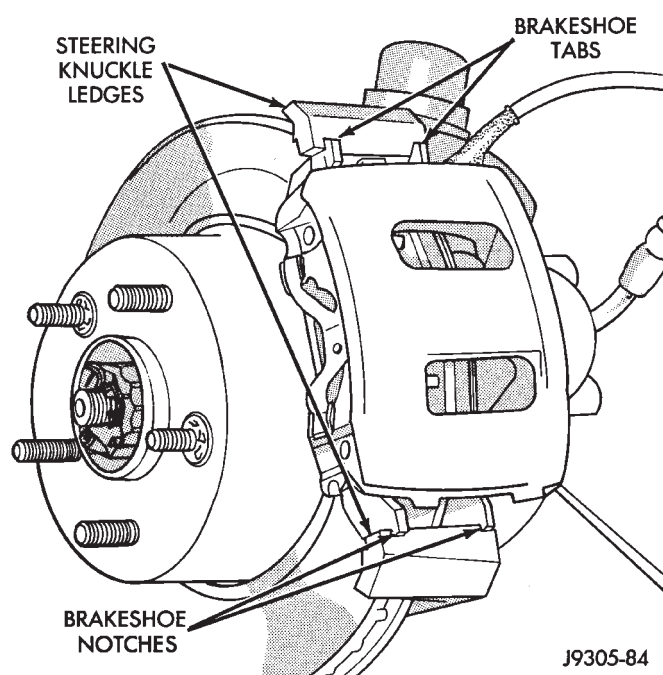

Fig. 10 Caliper And Brakeshoe Installation
(6) Install caliper. Position notches at lower end of brakeshoes on bottom mounting ledge of steering knuckle. Then rotate caliper onto rotor and seat tabs at upper ends of brakeshoes on top mounting ledge (Fig. 10).
(7) Check brakeshoe position on steering knuckle mounting ledges. Be sure notches at lower end of brakeshoes are securely seated on bottom mounting ledges. Then verify that tabs at upper ends of shoes are seated on top mounting ledge (Fig. 10).